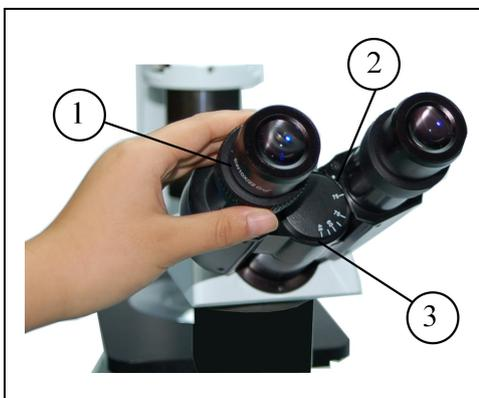

Fig 2
3.1.3 Adjusting the diopter (Fig 2)
★ The reticle on the interpupillary distance indicator^③, pointed by the spot “.” ^② on the eyepiece tube, shows the scale of the interpupillary distance. (Fig.2)